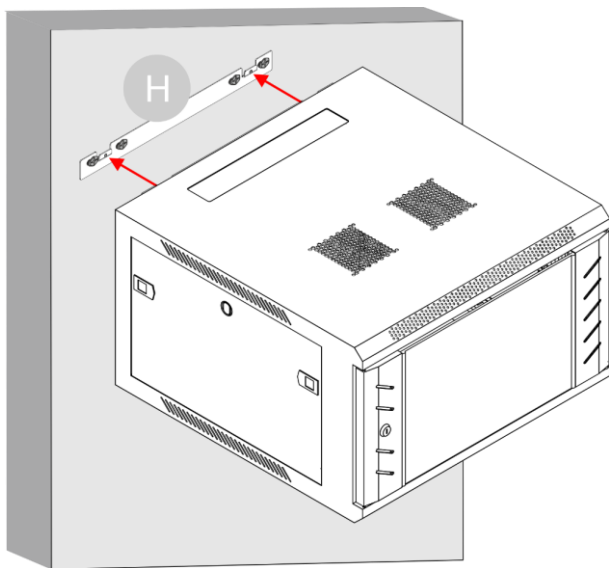
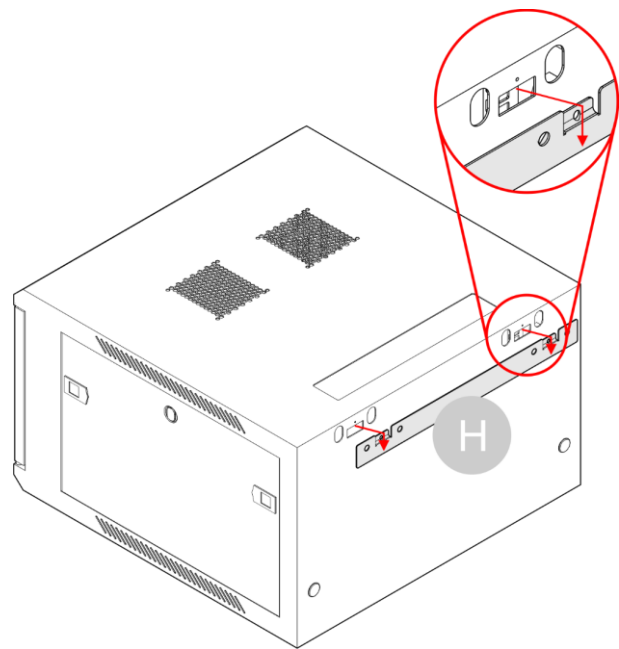

Fig. 20
Fig. 21
- 07) Hang the cabinet on the **wall bracket (H)**, as shown in Fig. 20 and Fig. 21.